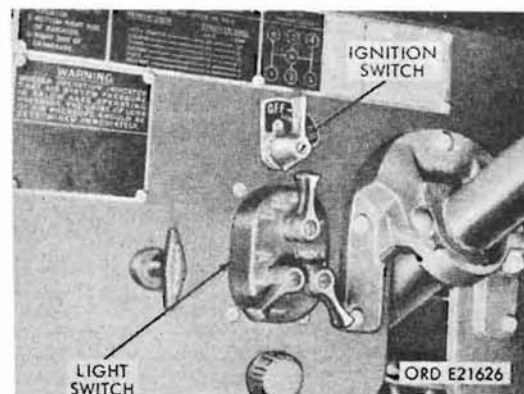

Figure 166. Switch group - gasoline
- (1) Light switch (fig. 166). This switch is screwed to the instrument panel and provides a selective control of lighting circuits. There are two types of switches, one- and two-socket, which are not interchangeable (par. 130). Later switches, have a built-in circuit breaker for protection of lighting circuits.
- (2) Dimmer switch (fig. 166). The dimmer switch is foot-operated and is located to the left and above the clutch pedal. It is effective only when the auxiliary switch of the light switch is in SER DRIVE position. The switch controls high and low headlight beam and beam indicator.
- (3) Ignition switch (fig. 166). This switch, secured to instrument panel by a hex-nut, controls power to ignition circuit on the gasoline engine and to the instrument cluster gages, but not to the ammeter or battery-generator indicator. On the multifuel engine, the ignition switch is replaced by an accessory switch which controls the power to the instrument cluster gages and the engine starting circuits.
a. Removal. Disconnect the battery ground cable (fig. 153) before the removal of the ignition switch (fig. 166). Remove the screw from the center of the switch handle and remove the handle. Remove the hex-nut and lockwasher holding the switch to the instrument panel and remove the switch from the back of the panel. Disconnect the cables from the switch.
c. Installation. Place the light switch (fig. 166) in the dash panel from the front, and secure with the four internal-teeth lockwasher and cross-recess-binding head screws. Connect the connector(s) to the switch receptacle(s).